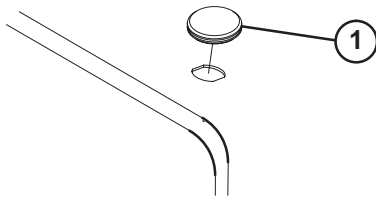

Figure 3
1. Remove plug from hole in left front corner of hood (Fig. 3).